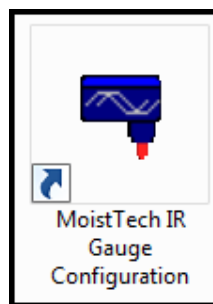

Figure 5. MoistTech IR Gauge Configuration Program Icon
- Figure 5: MoistTech IR Gauge Configuration Program Icon